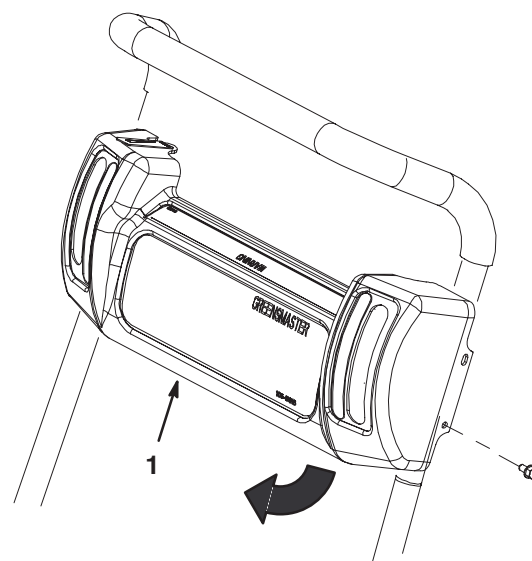

Figure 3
7. Remove the (4) screws securing the console to the handle (Fig. 3). Rotate the left side of the console downward until the right side can be maneuvered over the traction control handle and away from the handle.
22. Reposition the console to the handle and secure with the (4) screws previously removed (Fig. 3).